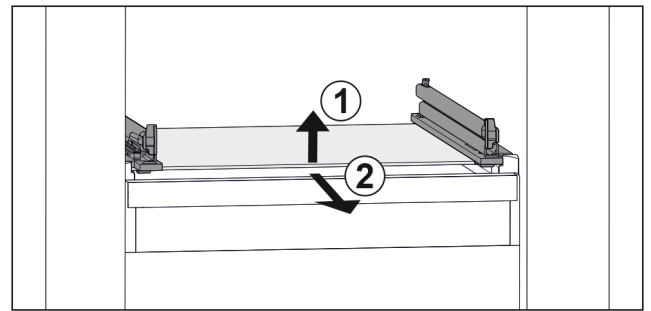

Fig. 43 Example illustration of glass shelf
- ▶ Lift glass shelf at the front. Fig. 43 (1)
- ▶ Take out glass shelf to the front. Fig. 43 (2)